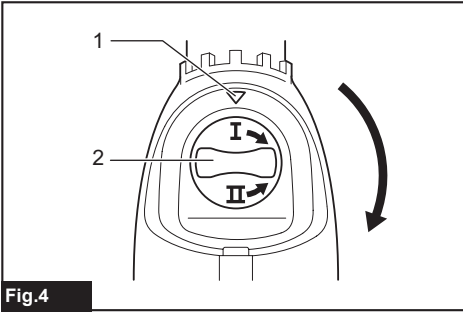

Fig.4
► Fig.4: 1. Arrow 2. Speed change knob